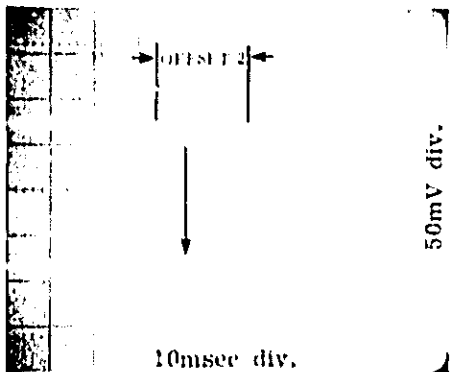

Figure 5-11. Integrator Offset Adjustment.
- e. Adjust A7R30 for waveform at A7TP2 shown in Figure 5-11.